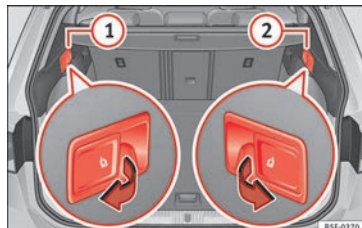

Fig. 156 In the luggage compartment: levers for remote release of the left part ① and right part ② of the rear seat backrest.
- Pull the remote release lever of the left part » Fig. 156 ① or right part ② of the backrest in the direction of the arrow. The released part of the rear seat backrest is folded automatically down and forwards.